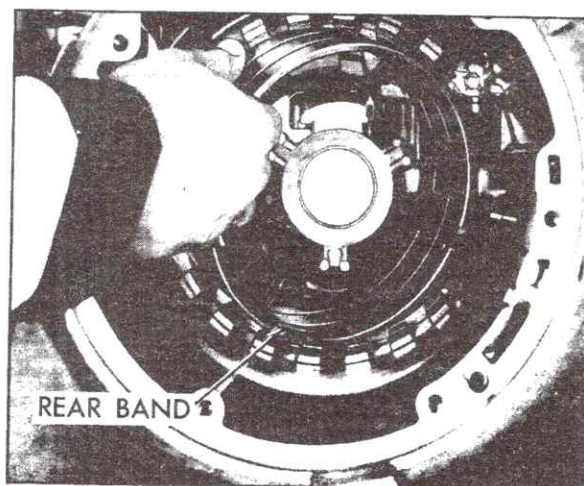

Fig. 7-93 Installing Rear Band Assembly
2. Install rear band assembly in transmission case so that band lugs index with anchor pins, Fig. 7-93.